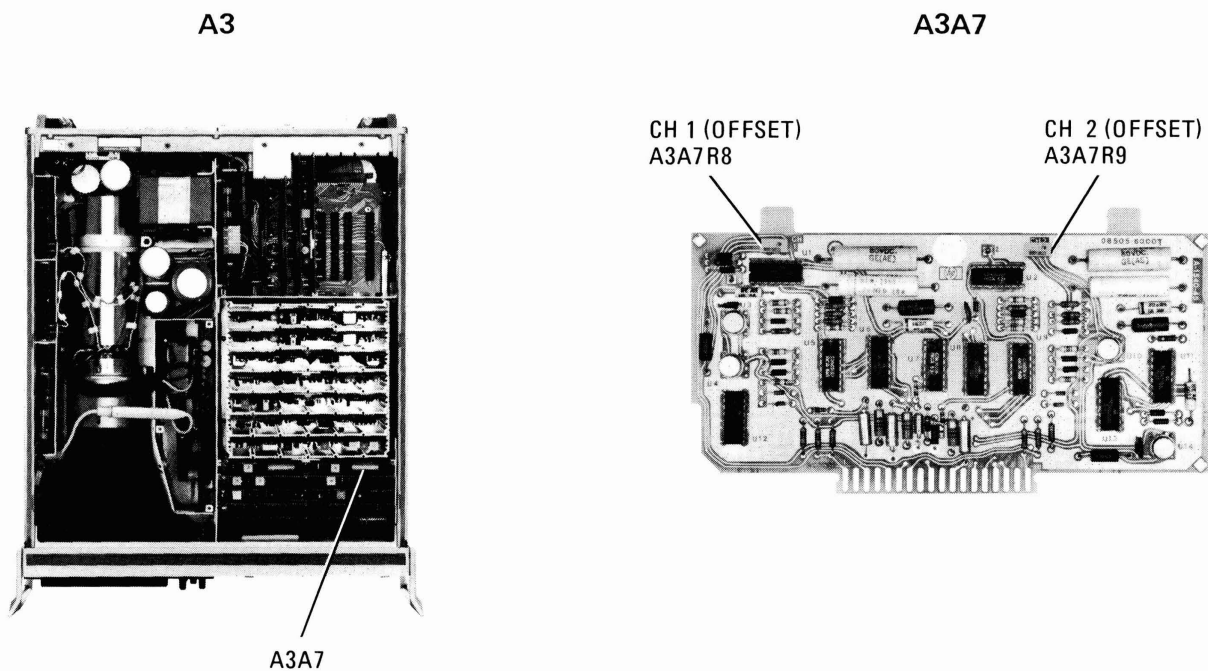

Figure A5-21. A3A7 Resolution Control Adjustment Locations
- d. Connect DVM to A3A7TP1. (See Figure A5-21.)